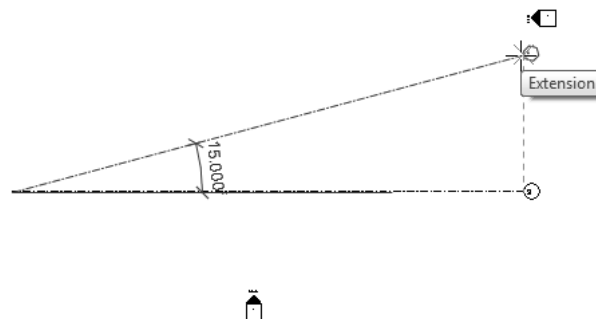

Figure 3-58 The grid line displaying the angular dimension and an alignment line
9. Click when the temporary angular dimension displays **15.00°** and an alignment line appears from the endpoint of the previous grid line, refer to Figure 3-58.